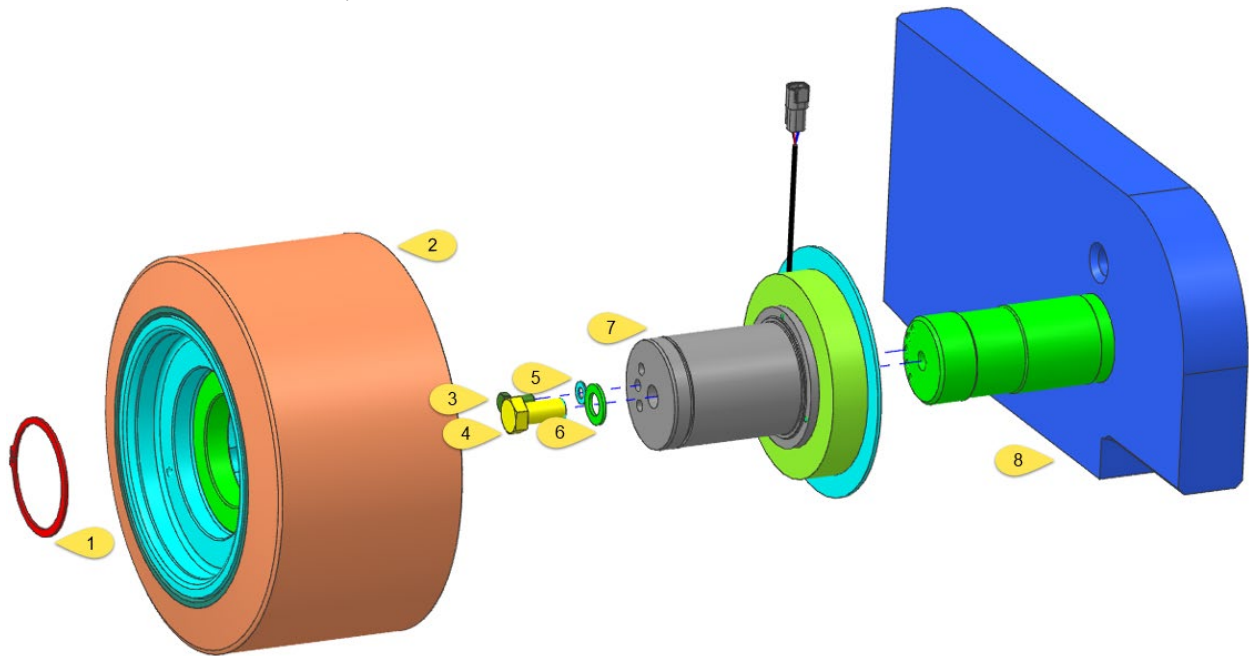

Figure 7 - Load Wheel / Sensor Assembly
3.6.2.1 Part Numbers & Torque Settings [Figure 7]